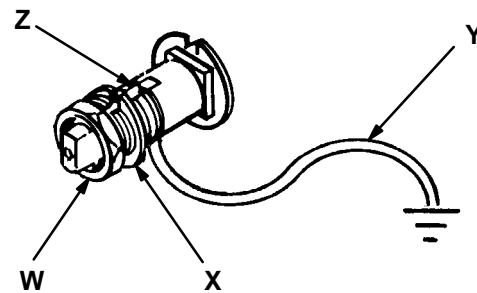

Fig. 1
1. *Pump*: loosen the grounding lug locknut (W) and washer (X). Insert one end of a 1.5 mm2 (12 ga) minimum ground wire (Y) into the slot in lug (Z) and tighten the locknut securely. See Fig. 1. Connect the other end of the wire to a true earth ground. Order Part No. 237-569, Ground Wire and Clamp.